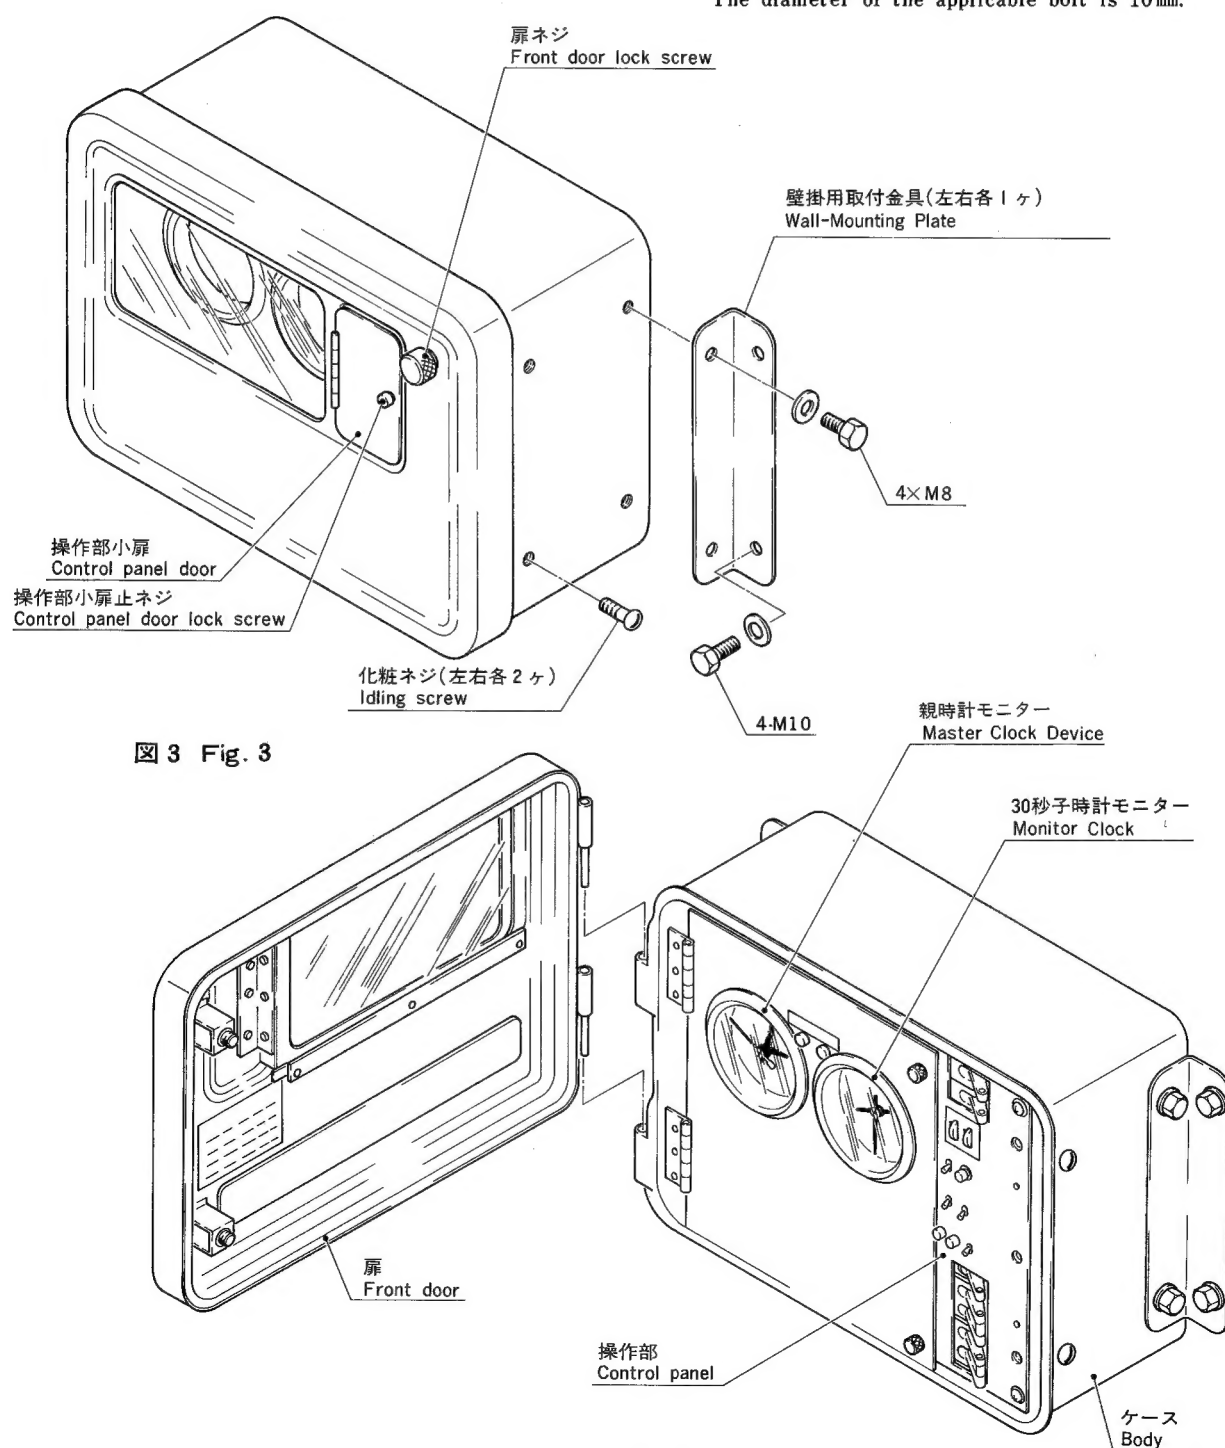

図3 Fig. 3
a. 壁掛型の場合 (図3参照)
a. Wall-mounting type (see Fig. 3)
Mounting method is illustrated in Fig. 3